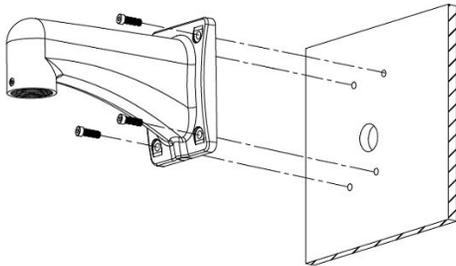

Figure 2-2
Step 2 Thread the installation screws into the Mount. See Figure 2-2.